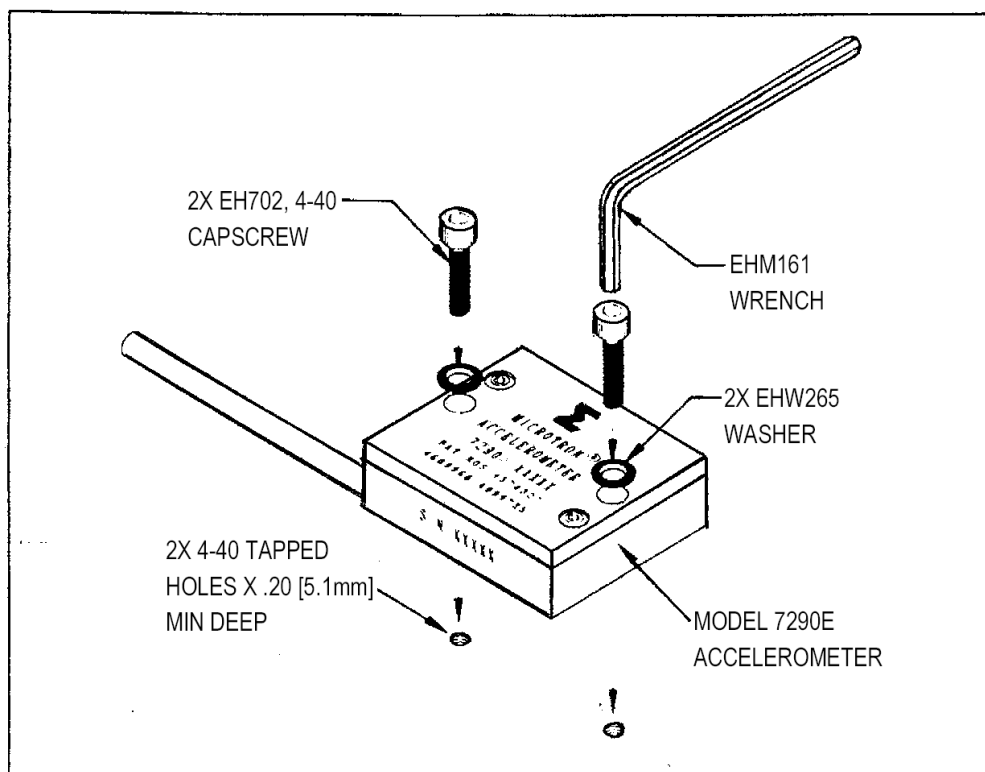

FIGURE 1- Installation of Model 7290E Microtron Accelerometer
All the materials used in the mounting of the Model 7290E Microtron accelerometer are supplied with the unit in the shipping container. These materials, as shown in Figure 1, include:
2. If possible, do not cement the unit to the mounting structure. Use the supplied mounting washers and screws, as shown in Figure 1. Metric size screw M3 may also be used. Note: Adhesive mounting may be used, if necessary. Adhesion of epoxies to the hard anodized case is excellent, but thermal mismatch to the mounting surface can degrade the joint. A compliant adhesive, such as Dow Corning 3145 RTV, is recommended. Use care to maintain flatness of the unit during curing to reduce cross talk errors.